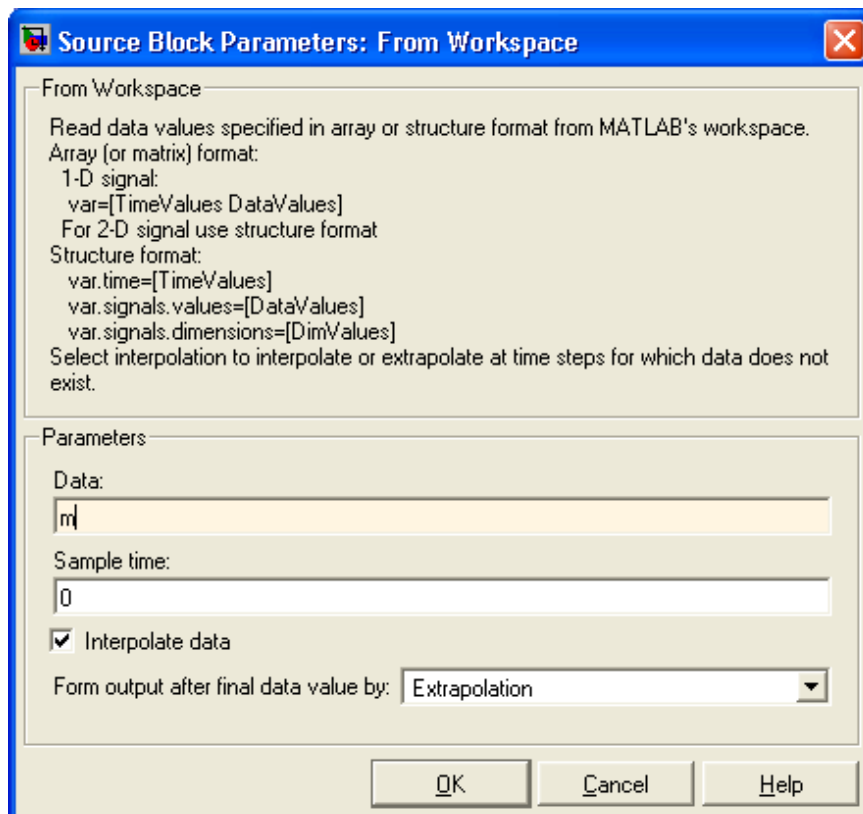

Figure 11: Block Parameters For $m(t)$
- The next step is to configure the From Workspace block specifying the workspace variable to be used as input (ie. $m(t)$). Open the Block Parameter window by double left-clicking on the From Workspace block. In the Data field enter the 1-D signal **m**. Leave the default entries in the other fields as shown in Figure 11. Select OK to close the Block Parameter window. Note that you must place **m** in the workspace prior to simulating this model.